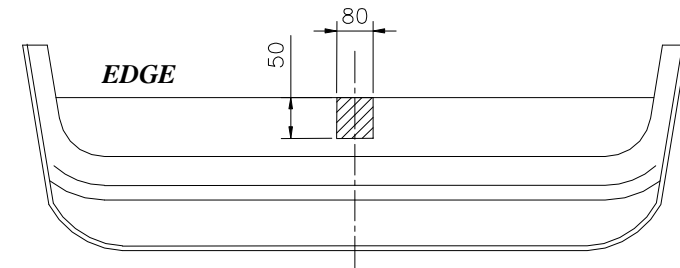

Fig. 2
4. Put main bar of the towbar (pos. 1) to chassis members and fix it using bolts M12x40mm (pos. 6) through original holes in members. Elements (pos. 4) slide through holes in rear slice.
6. Assemble the bumper after cut out fragment according to figure 2.
7. Fix body of the automat (pos. 9) and the socket plate (pos. 3) using bolts M12x25mm (pos. 5) from accessories. Place tow-ball (pos. 2) according to supplied instruction.